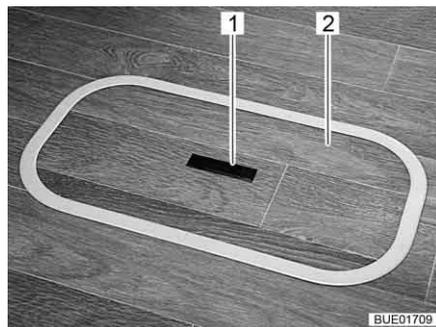
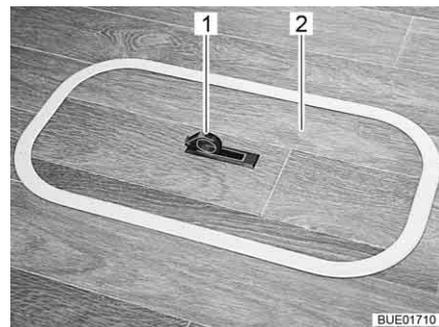

Fig. 79 Floor compartment cover (handle recessed)
Fig. 80 Floor compartment cover (handle swung out)
- Push one side of the grip plate (Fig. 79,1) downwards. The handle (Fig. 80,1) swivels upwards.
- Remove the cover (Fig. 79,2 or Fig. 80,2) upwards.